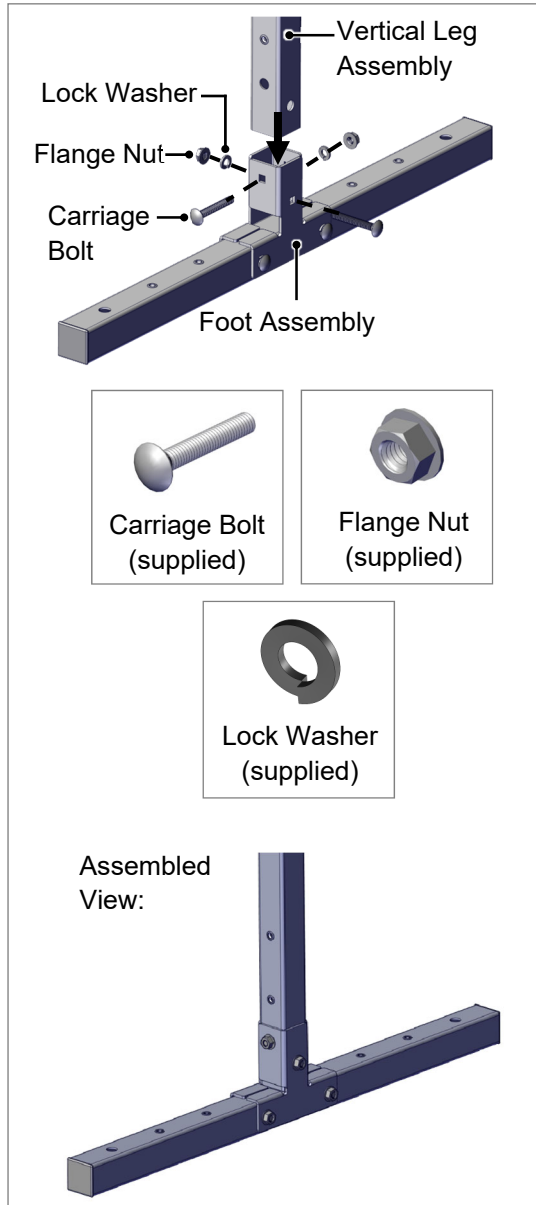

Fig 5. Insert Vertical Leg Assembly into Foot Assembly
3. Insert the Vertical Leg Assembly into the Foot Assembly and secure with two (2) Carriage Bolts, two (2) Flange Nuts, and two (2) lock washers (Fig 5). Repeat this step on the other side.